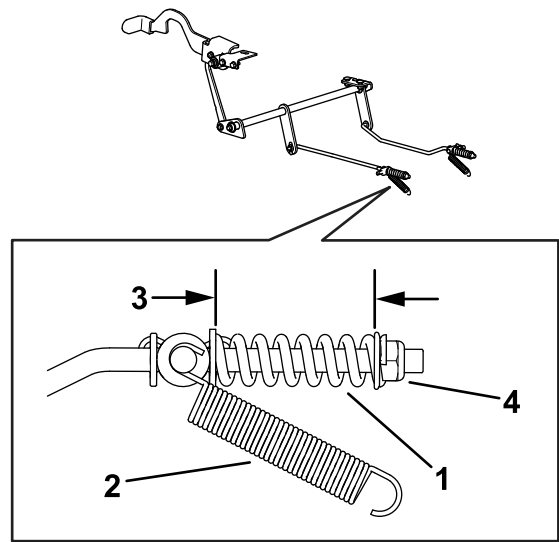

Figure 82
8. Check both spring lengths as shown in Figure 82. If an adjustment is necessary, turn the spring retention nut clockwise to shorten the spring and counterclockwise to lengthen it. Repeat step 6.